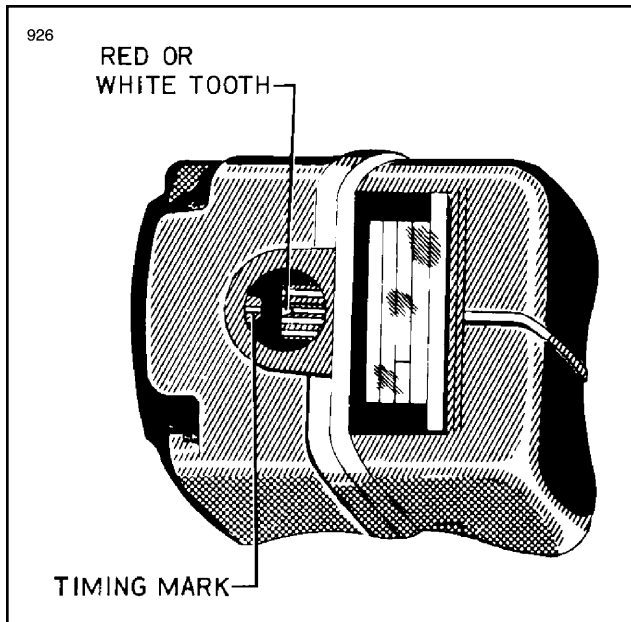
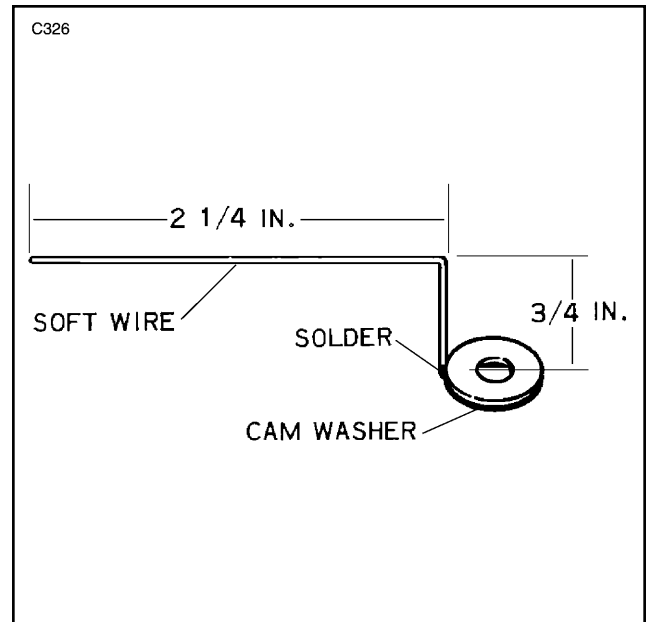

Figure 8-16. Magneto Timing Marks
Figure 8-17. Timing Pointer
- With timing plate and pointer attached. (Refer to Figure 8-17.) and pointer set at zero, rotate coupling from neutral in a left hand direction 10 degrees. Appearing through timing hole, ascertain if the white or red tooth aligns with the white line of the distributor block. (Refer to Figure 8-16.) Alignment may not vary over ± 4 degrees.
NOTE: A timing kit, including timing plate, etc. may be purchased through the engine or magneto manufacturer. A pointer may be formed as shown in Figure 8-17.